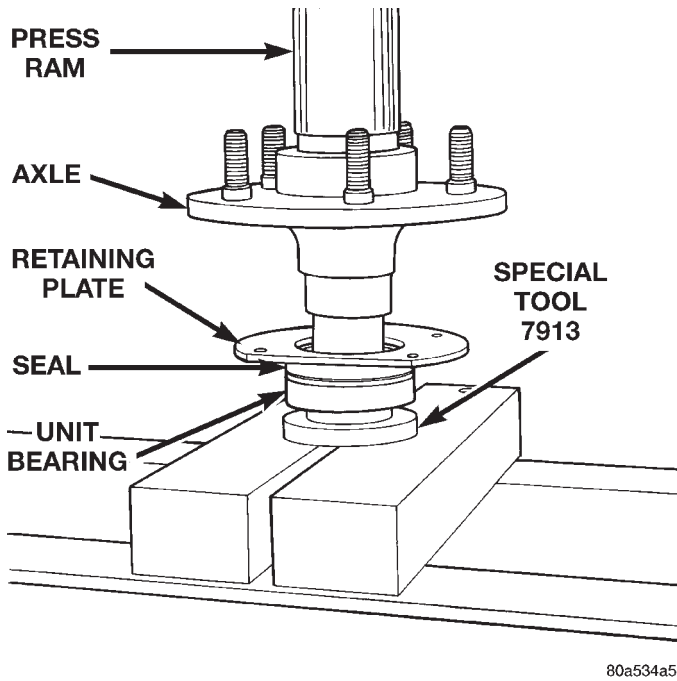

Fig. 29 Press Bearing On Axle
- (7) Using Installer 7913 and shop press, press bearing onto axle shaft (Fig. 29).